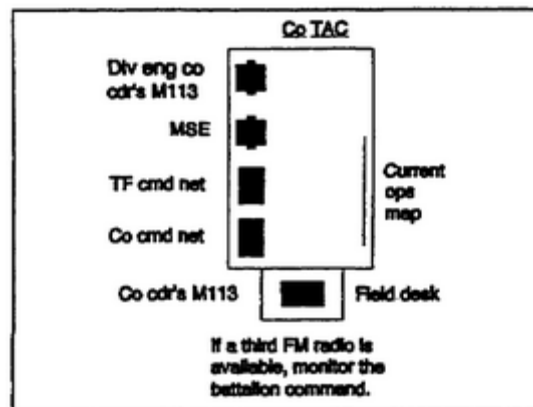

Figure 3-2. Company TAC.
- a. TAC. The division engineer company TAC (Figure 3-2) is very mobile and usually collocates with the TF TAC so it can control the fight or the operation.